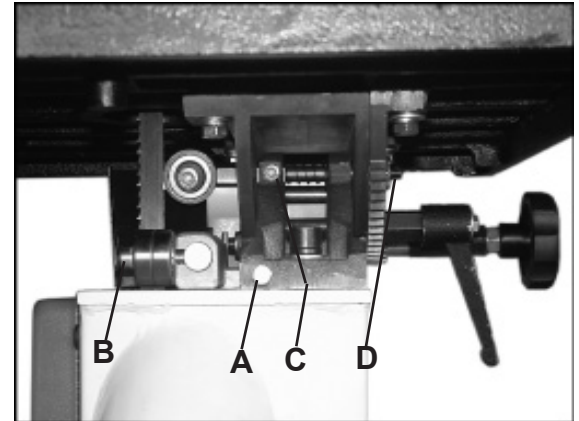

Figure 10
**Lower Guides:** To adjust the lower blade guides, first loosen the hex nut (A--Fig. 10) then move the guide carrier casting to allow the front to be approximately 1/16" behind the gullets of the Bandsaw blade and tighten the hex nut (A--Fig. 10). Next set the roller guides to within 1/32" of the blade by releasing the screw (B--Fig. 10) on each side of the blade. Adjust the thrust bearing to be just clear of the back of the blade by unlocking the hex nut (C--Fig. 10), and turning adjusting knob (D--Fig. 10). Finally, tighten hex nut (C--Fig. 10).